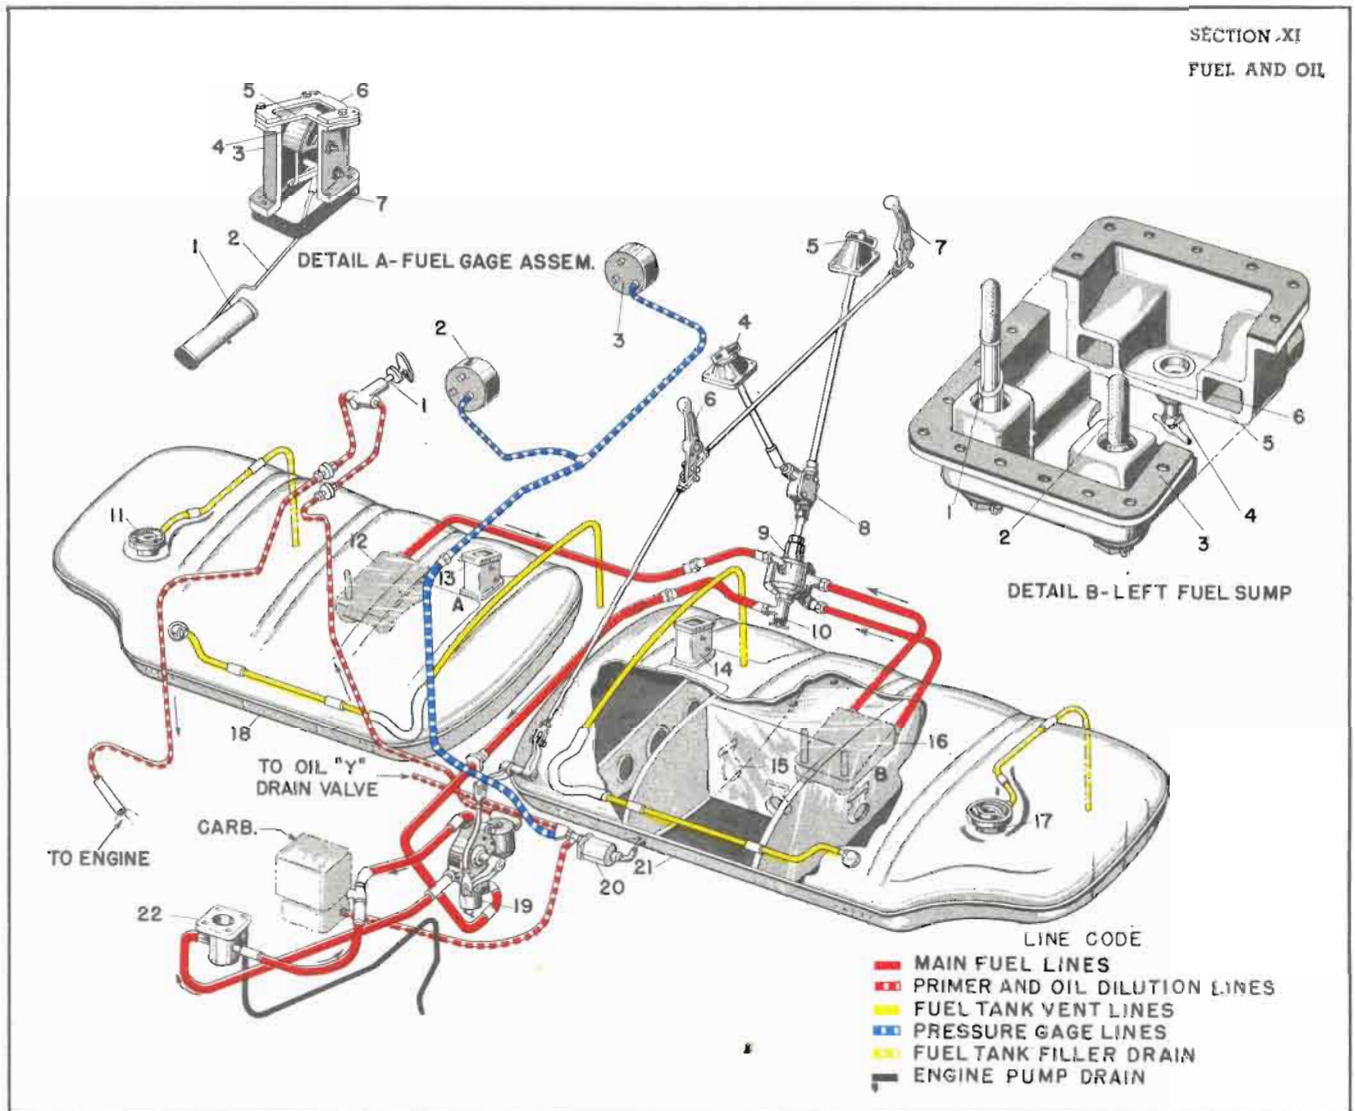

Figure 159 — Fuel System Diagram
a. GENERAL.—(See figures 159 and 160.)—The fuel system consists of two removable tanks,\* housed within the center section structure, a type F-10 engine-driven fuel pump mounted on the engine accessory housing, a fuel unit (combination hand pump and strainer) on the forward side of the fire wall with a fuel cock at the bottom of the fuel unit, and a fuel selector valve. Two float-type fuel quantity gages, a fuel pressure signal, a carburetor mixture temperature indicator, engine priming and oil dilution systems, and the necessary piping, fittings, controls, etc., are provided. Fuel is inducted into the engine from either the left or right tank by means of the fuel tank selector valve, through the combination fuel unit to the engine-driven pump and into the carburetor. In the event that the engine-driven fuel pump fails, fuel is supplied to the carburetor by the fuel unit, with pressure being applied by the hand pump. Fuel system lines are identified by a red band.